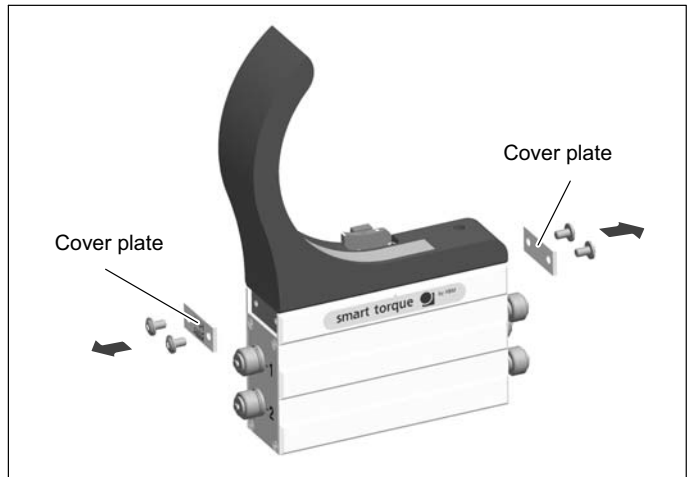

Fig. 8.4 Cover plates on the stator housing
1. Remove the side cover plates on the stator housing (see Fig. 8.4.)